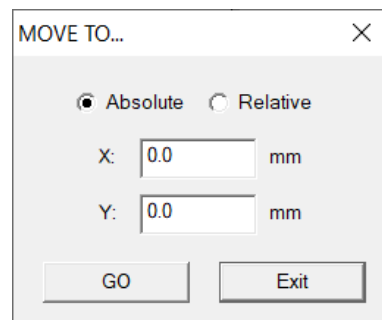

Fig. 1.7.33
1. Click “MOVE TO...” button and then input the X and Y values in the dialog box like Fig.1.7.33 and click “GO,” the XY Table will move to that specific position. The moving speed can be adjusted from “Speed” parameter.